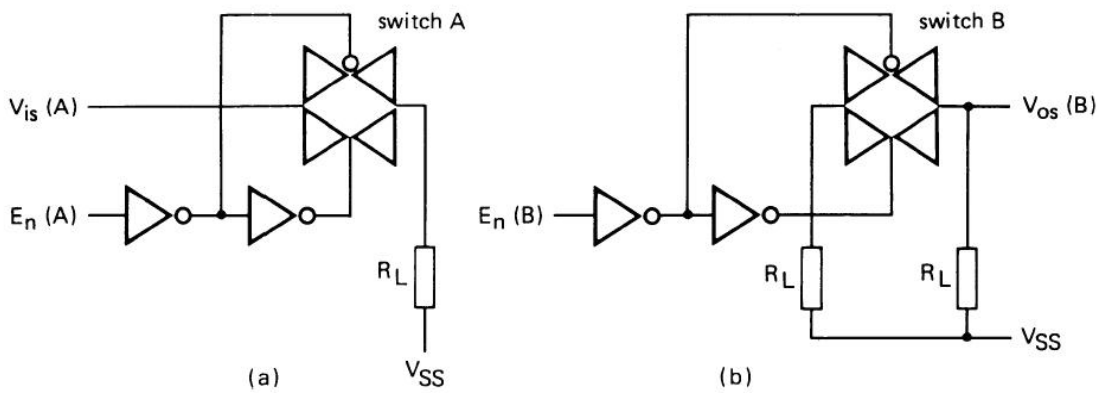

图 8
$20\log (V_{OS} (B) / V_{IS} (A)) = -50\text{dB}$ ;  $E_n (A) = V_{SS}$ ;  $E_n (B) = V_{DD}$ ; 见图8;